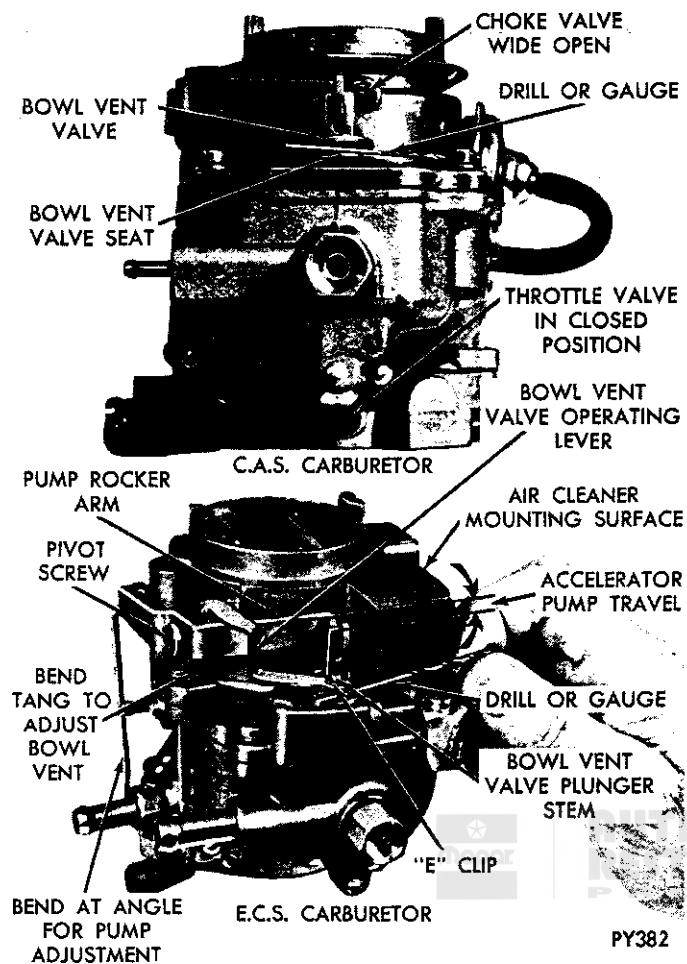

Fig. 14—Checking Bowl Vent Opening
(1) Assemble pump plunger, spring and spring seat and slide plunger shank up through opening in air horn.
(2) Assemble accelerator pump rocker arm and bowl vent lever, then install pivot screw. Engage pump rocker arm with pump plunger and bowl vent lever over valve stem. Insert pivot screw and tighten securely. (Fig. 14.)
(3) Install "E" clip over bowl vent valve stem to retain lever.
(4) Engage fast idle cam link with choke lever.
(1) Open choke valve, so that when throttle valve is closed, fast idle adjusting screw will not contact fast idle cam.
(2) Be sure pump operating rod is in the correct stroke hole in throttle lever, and that bowl vent clip on pump stem is in proper location.
(3) Close throttle valve tightly. It should be just possible to insert a #69 drill (.030 + or - .010") between bowl vent and air horn, (Fig. 14).
- (1) Be sure the accelerator pump rod is in outer hole (long stroke) of throttle lever.
- (2) Close throttle valve to curb idle.
- (3) Using a straight edge placed on flat surface (air cleaner mounting surface), measure distance between straight edge and top of accelerator pump plunger. (Fig. 14.) This measurement should be 5/16 inch.
- (4) If an adjustment is necessary, bend accelerator
(1) With throttle valve at closed curb idle, it should be possible to insert a 9/64 inch drill between underside of bowl vent valve lever and air horn. (Fig. 14.)
(2) If an adjustment is necessary, bend lower tang on bowl vent valve operating lever (at pivot) until correct opening has been obtained.